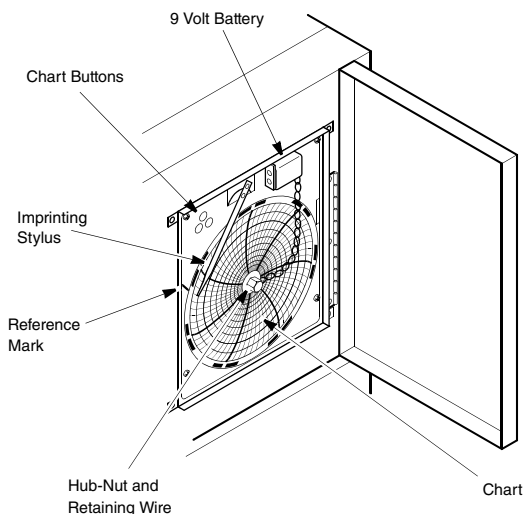

Figure 2. Chart Recorder
1. The main display (Figure 2 on page 3, #1) and the thermometer (#2) show the warm alarm temperature.